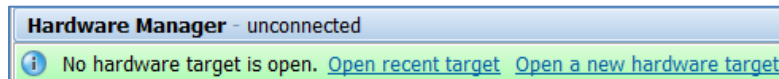

Figure 40: Launch Open New Hardware Target Wizard
3. In the Hardware Manager window, click **Open a new hardware target** to open a connection to the Digilent JTAG cable for ZC702 (FIGURE 40).